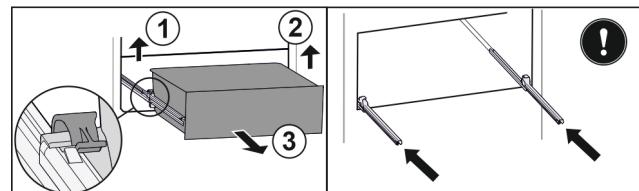

Fig. 83
- ▶ Lift left clamp and simultaneously pull drawer forwards on the left. Fig. 83 (1)
- ▶ Lift right clamp and simultaneously pull drawer forwards on the right. Fig. 83 (2)
- ▶ Remove drawer to the front. Fig. 83 (3)